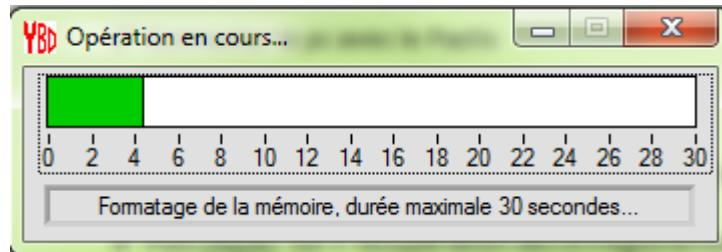

Figure 9. Formatting the PASTiS sytem
8. A waiting bar is opened until the formatting of the PASTiS system is finished (Figure 9).